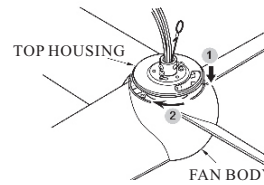
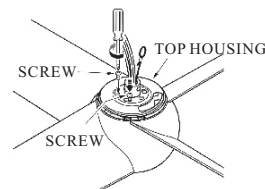

FIG. 4
FIG. 5
3. Put the two key holes of top housing over the 3 loosened screws and rotate the top housing and make the sure the 3 round holes was aligned and tighten back the screws. (See fig.4 & fig.5)